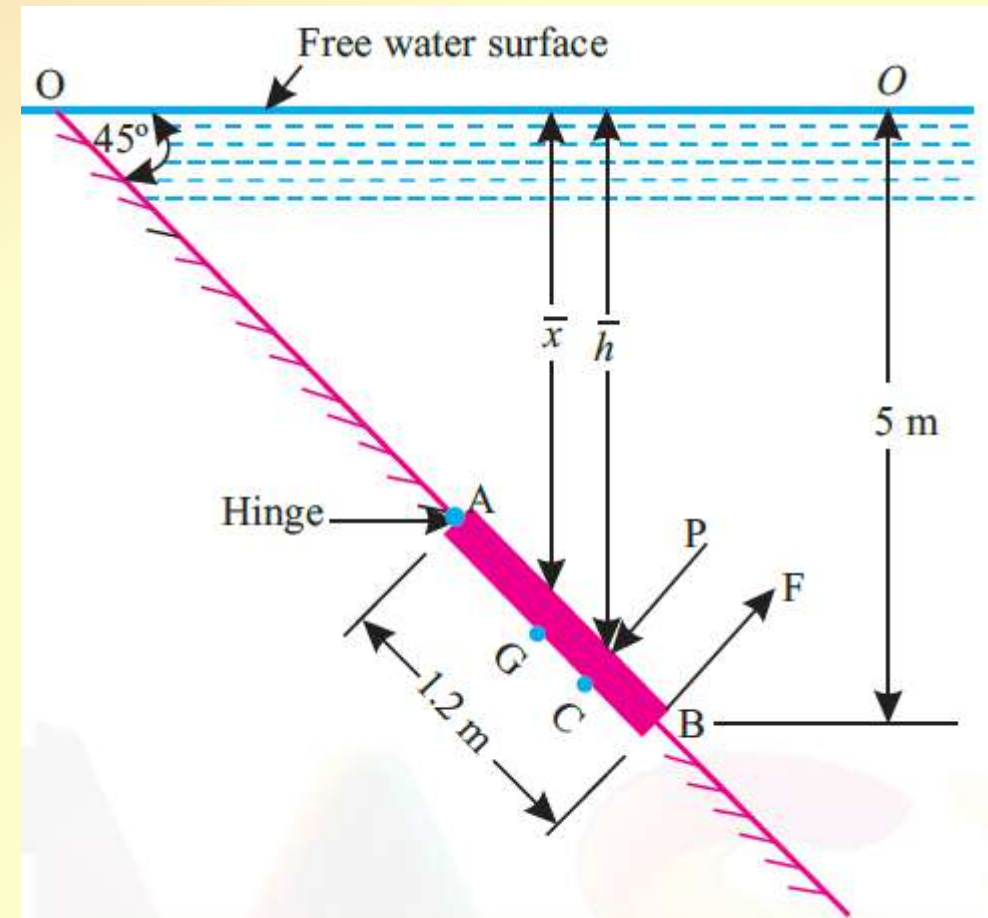

Fig. 3.33
**Example 3.24.** An inclined rectangular sluice gate AB 1.2 m by 5 m size as shown in Fig. 3.33 is installed to control the discharge of water. The end A is hinged. Determine the force normal to the gate applied at B to open it.
From Fig. 3.33, we have  $\frac{\bar{h}}{OC} = \sin 45^\circ$